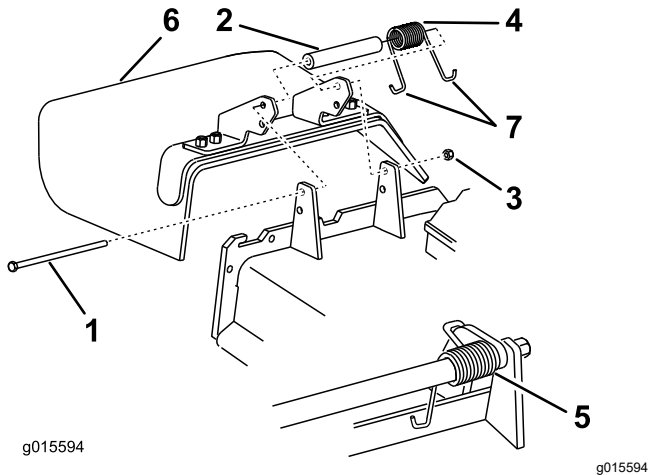

Figure 112
1. Remove the locknut, bolt, spring, and spacer holding the deflector to the pivot brackets (Figure 112).
2. Remove the damaged or worn grass deflector (Figure 112).
Note: Make sure that 1 J-hook end of the spring is installed behind the deck edge before installing the bolt as shown in Figure 112.
6. Place 1 J-hook end of the spring around the grass deflector (Figure 112).